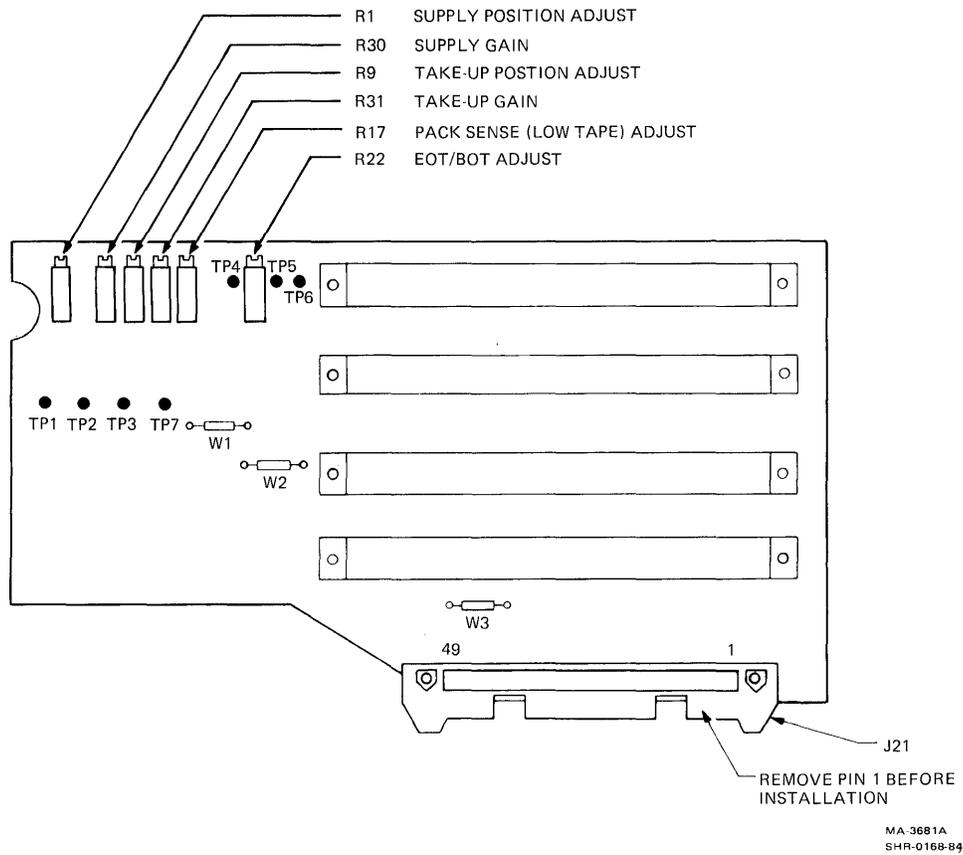

Figure 3-3 Interconnect F1 PCBA Adjustments and Test Points
2. On the interconnect F1 PCBA, connect a DVM with its positive lead to TP6 and its negative lead to TP5 (Figure 3-3).
7. If the voltage in step 6 is out of tolerance, adjust potentiometer R22 on the interconnect F1 PCBA for 0 Vdc (Figure 3-3).
2. On the interconnect F1 PCBA, connect a DVM with its positive lead to TP4 and its negative lead to TP7 (Figure 3-3).
6. If the voltage is out of tolerance, adjust potentiometer R17 on the interconnect F1 PCBA (Figure 3-3).